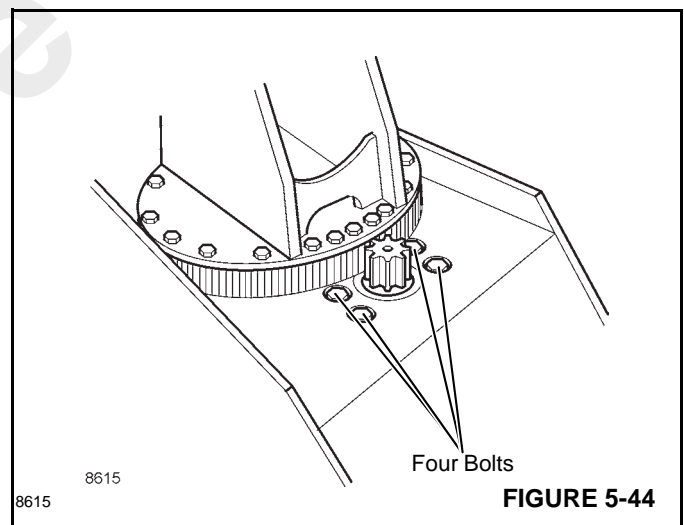

FIGURE 5-44
Torque the 1/2" gearbox mounting bolts (4) see *Fasteners and Torque Values page 1-12*. Refer to Figure 5-44 for bolt locations.